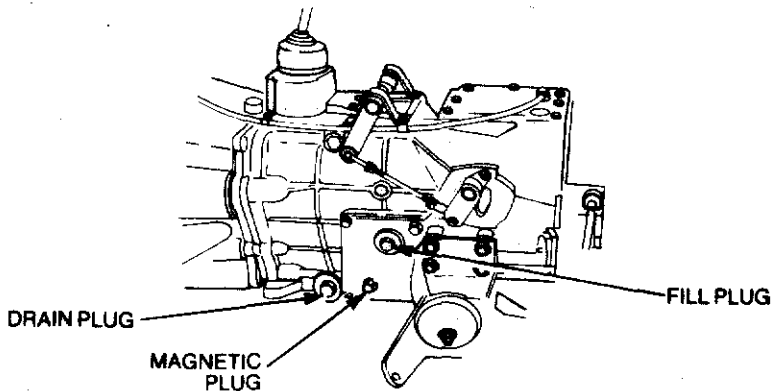

Figure 3-7 Transmission drain and fill plugs
**326.** The transmission fill plug is adjacent to the drain plug (see Fig. 3-7). Fill the transmission with the recommended lubricant to the bottom of the fill hole.